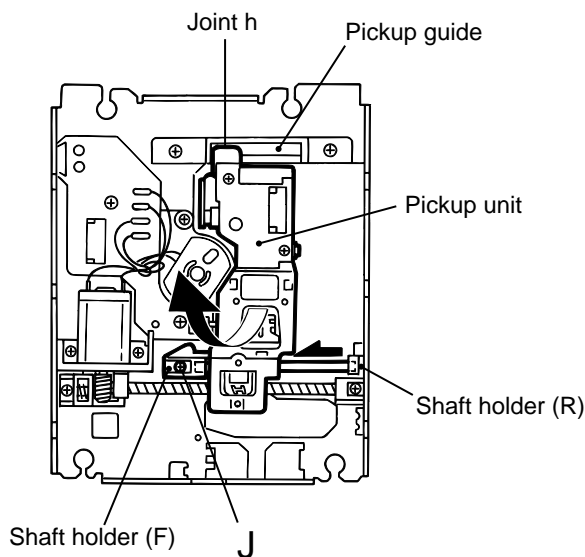

Fig.17
■ Removing the pickup unit (See Fig.17)
1. Turn over the traverse mechanism assembly and remove the screw J attaching the shaft holder (F).
2. Move the shaft inward and remove it from the shaft holder (R).